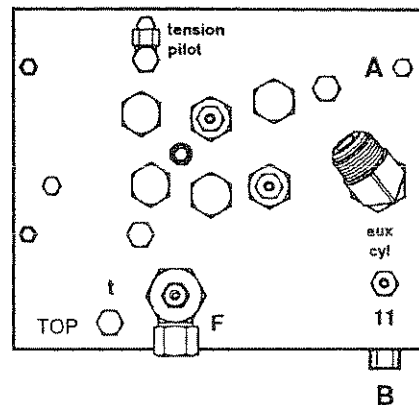

Fig. 53
2. Remove the 1/4" JIC cap on the main valve retract pressure port, see **Fig. 53**. (Retract pressure gauge port is labeled with a stamped "B"). Connect a 5,000 psi gauge to the retract pressure gauge port.